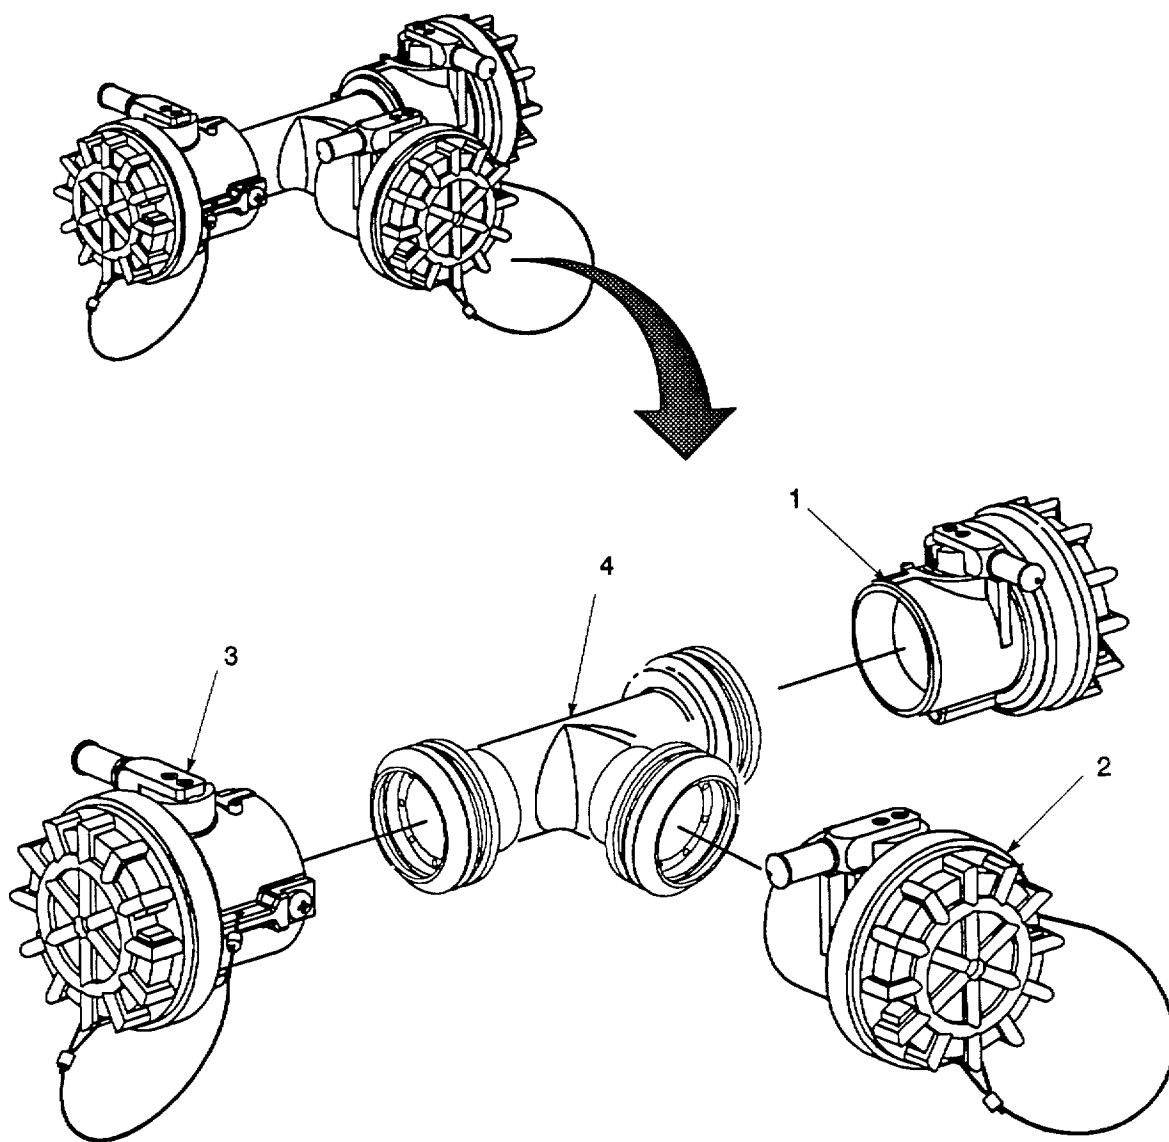

Figure 4-20. Tee Assembly Repair.
a. Disassembly. Refer to figure 4-20.
(1) Remove valved dry break coupling (1) from tee body (4) (para 4-14).
(2) Remove valved dry break coupling (2) from tee body (4) (para 4-14).
(3) Remove valved dry break coupling (3) from tee body (4) (para 4-14).
c. Inspection. Refer to figure 4-20.
(1) Inspect valved dry break coupling assemblies (1, 2 and 3) for cracks, corrosion and damaged coupling bodies. Check sealing surfaces for scratches.
(2) Inspect tee body (4) for cracks, splits, pitting, and corrosion.
d. Repair. Refer to figure 4-20.
(1) Replace damaged or defective tee body (4).
(2) Repair valved dry break coupling assemblies (1 and 2) in accordance with para 4-18.
e. Assembly. Refer to figure 4-20.
- (1) Install valved dry break coupling (1) on tee body (4) (para 4-14).
- (2) Install valved dry break coupling (2) on tee body (4) (para 4-14).
- (3) Install valved dry break coupling (3) on tee body (4) (para 4-14).
- (4) Install tee assembly in fuel system (para 3-4b).